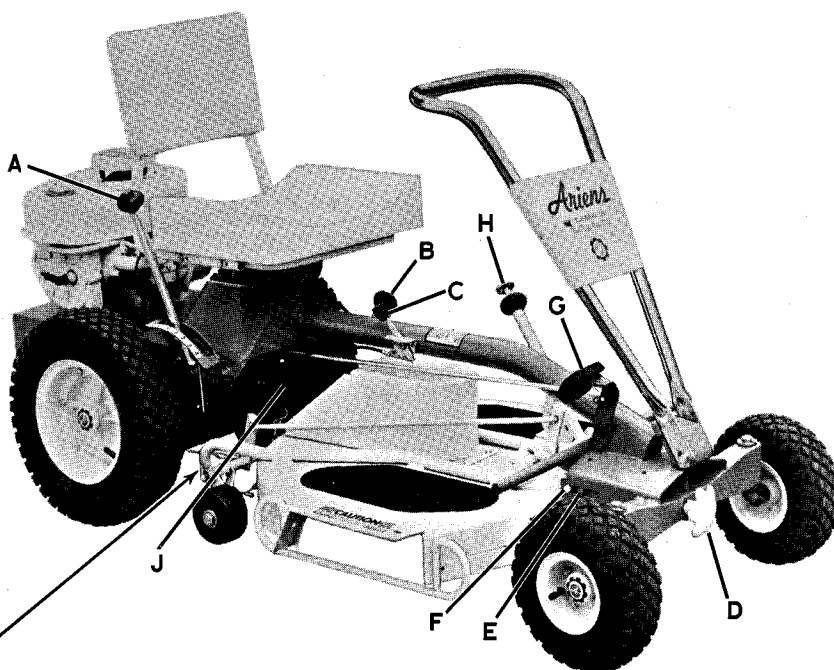

Figure 1
Before starting engine, be sure tractor speed control lever (A, Figure 1) is in neutral position and the power driven implement clutch (B, Figure 1) is in the "OUT" position as indicated on the frame above the lever.
(1) The engine throttle lever (C, Figure 1) has four positions: CHOKE, FAST, SLOW, STOP. To start cold engine, place the throttle lever in the CHOKE position and pull starter handle. When engine starts, move throttle lever (C, Figure 1) to SLOW position.
b. To operate, depress clutch pedal lightly, press down on shift lever button and move lever to desired speed. Release clutch slowly and tractor will move forward. See G, Figure 1.
a. A separate clutch is provided for starting and stopping power driven implements. The clutch lever (B, Figure 1) is located in front of the main frame on the left side.
(1) Turn Insta-Hitch knob (D, Figure 1) counterclockwise until carrier slots (E) and exposed.
(2) Insert floating hitch (F, Figure 1) into carrier slots and turn Insta-Hitch knob clockwise until the rod projecting from floating hitch is enclosed by frame.
(3) Cross sway chains, pass them UNDER the roller support bracket and hook "S" hooks to holes on either side of frame.
(4) To remove implement, simply turn Insta-Hitch knob counterclockwise until carrier slots are exposed and remove floating hitch from frame. Disconnect sway chains from tractor frame.
(1) Turn Insta-Hitch knob (D, Figure 1) counterclockwise until carrier slots are exposed.
(2) Insert floating hitch in the slots in the carrier and fasten the links to the carrier with washers and hair pin cotters. Turn Insta-Hitch knob clockwise until the rod projecting from the floating hitch is enclosed by frame.
(3) Cross sway chains, pass them UNDER the roller support bracket and hook "S" hooks to holes on either side of frame. (See Figure 1).
The complete mower can be attached to the tractor by use of the Insta-Hitch. (See paragraph 5, Section II.) Be sure sway chains (Figure 1) are hooked into frame and drive belt (J, Figure 1) is attached to PTO pulley.
(1) To start mower, move clutch lever (B, Figure 1) to the IN position indicated on panel above lever.
(2) To stop mower, move clutch lever (B, Figure 1) to the OUT position.
(1) Height Adjustment. Height of mower blade may be varied from 1-1/2 to 3-1/2-inches by raising or lowering lever (H, Figure 1).
(2) Belt Adjustment. Belt adjustment is obtained by turning knob (D, Figure 1). When height adjustment lever (H, Figure 1) is in mid-notch, tighten belt just enough to prevent slippage of the belt under load. Overtightening belt will cause premature belt and bearing wear.
(1) Place mower in lowest cutting position.
(2) Remove the two nuts holding belt guard cover to belt guard and remove cover
(3) Turn Insta-Hitch knob (D, Figure 1) counterclockwise until belt is loose enough to be removed. Replace belt. For proper belt adjustment, see Adjustments (paragraph b.).
(4) Replace belt guard cover.
(1) Height Adjustment. Height of mower blade may be varied from 1-1/2 to 4-1/2-inches by raising or lowering lever (H, Figure 1).
(2) Remove the four cap screws holding belt guard and remove guard.
(3) Turn Insta-Hitch (D, Figure 1) counterclockwise until belt is loose enough to be removed. Replace belt. For proper belt adjustment, see Adjustments (paragraph b.).